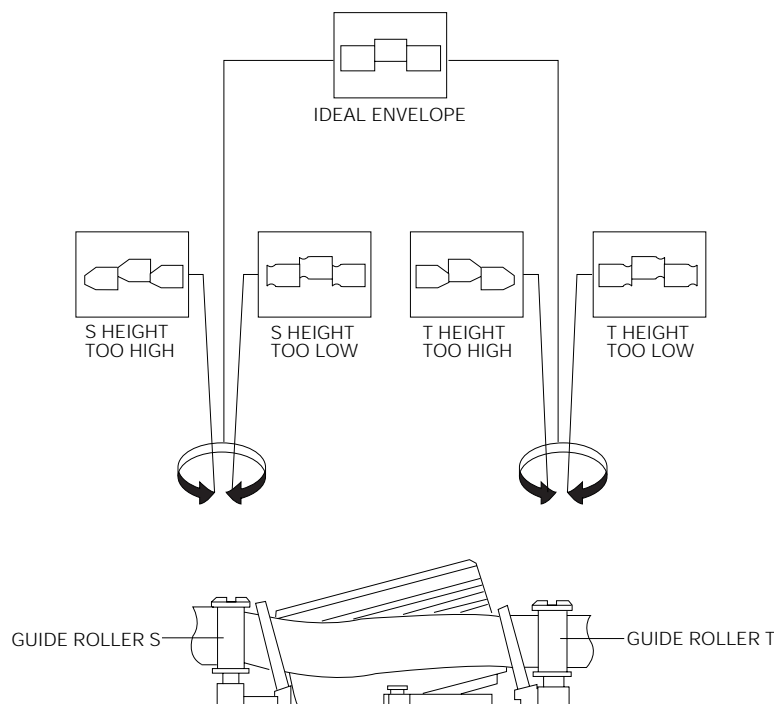

Fig. 4-5-9 Guide Roller S, T Height Adjustment
8. Turn the guide roller heads with a flat head (  ) driver to obtain a flat video RF envelope as shown in Fig. 4-5-9.